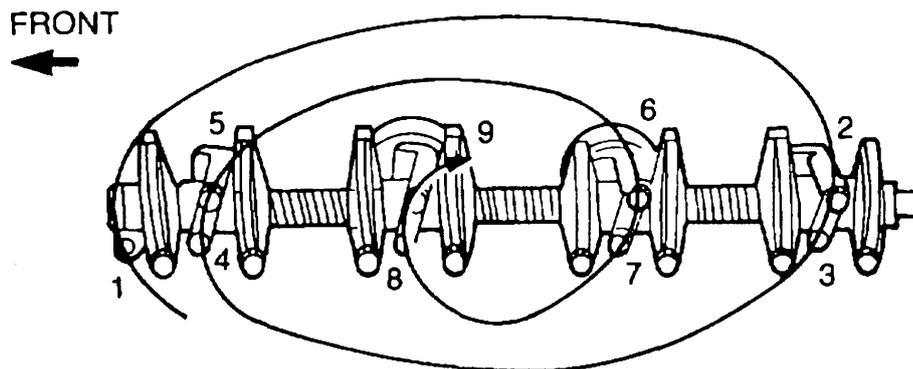

Figure 15 Rocker Shaft - Removal
- cc.** Slacken and remove the rocker shaft retaining bolts in the sequence shown. Remove the rocker shaft assembly (Figure 15).